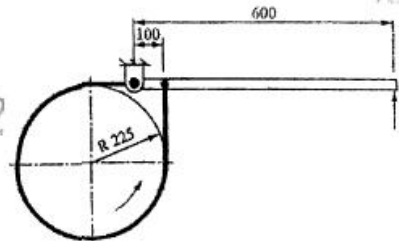

Fig.Q6(b)
b. A band brake arrangement is shown in Fig.Q6(b). It is used to generate a maximum braking torque of 200 N-m. Determine the actuating force 'P', if the coefficient of friction is 0.25. The angle of wrap of the band is 270° . Determine the maximum intensity of pressure, if the band width is 30 mm. (10 Marks)